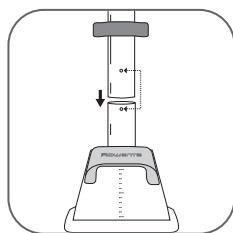

fig. 3
3. Insert the pole into the base by pressing downwards until the holes of the pole and base are at the same level, so that you can put the screw back. If the holes are not aligned, check that the clips of the pole are well and truly unlocked. (fig. 3)